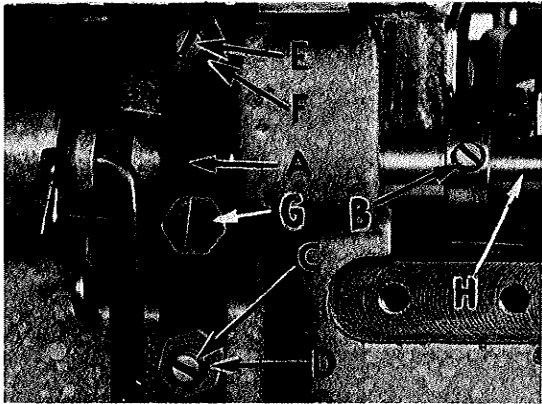

Fig. 17
The front edge of needle hole in presser foot must be aligned with front edge of needle hole in throat plate. It is also important that the bottom of the presser foot be flat on the throat plate. If necessary, presser foot can be realigned with throat plate slots by shifting the foot lifter lever shaft (H, Fig. 17). To move the shaft, loosen collar screws (B, Fig. 17) and clamp screw (G) and then shift the foot lifter lever shaft to the left or right as required. Retighten collar screws and clamp screw.